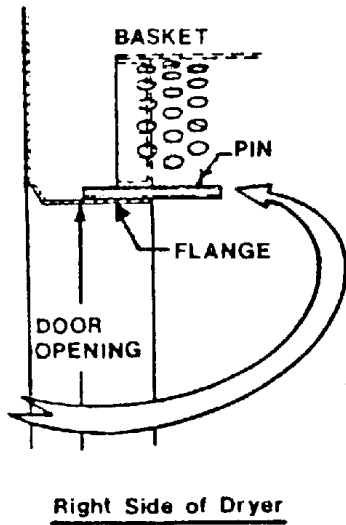
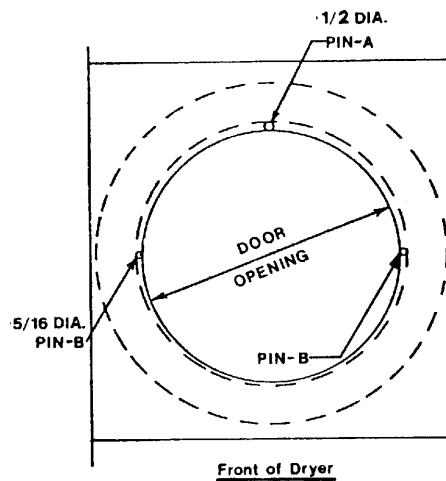

Fig.1
Fig.2
2. Place one "A" and two "B" diameter pins inside the drying compartment between the rim of the basket opening and the rim of the door opening in the positions shown in Figure 1 and Figure 2. Check the two "B" pins for equal clearance.
4. Check the space between basket and door opening at "A" pin and "B" pin positions (Figure 2). If the gap is not approximately the same on both sides, repeat steps 1, 2 & 3.